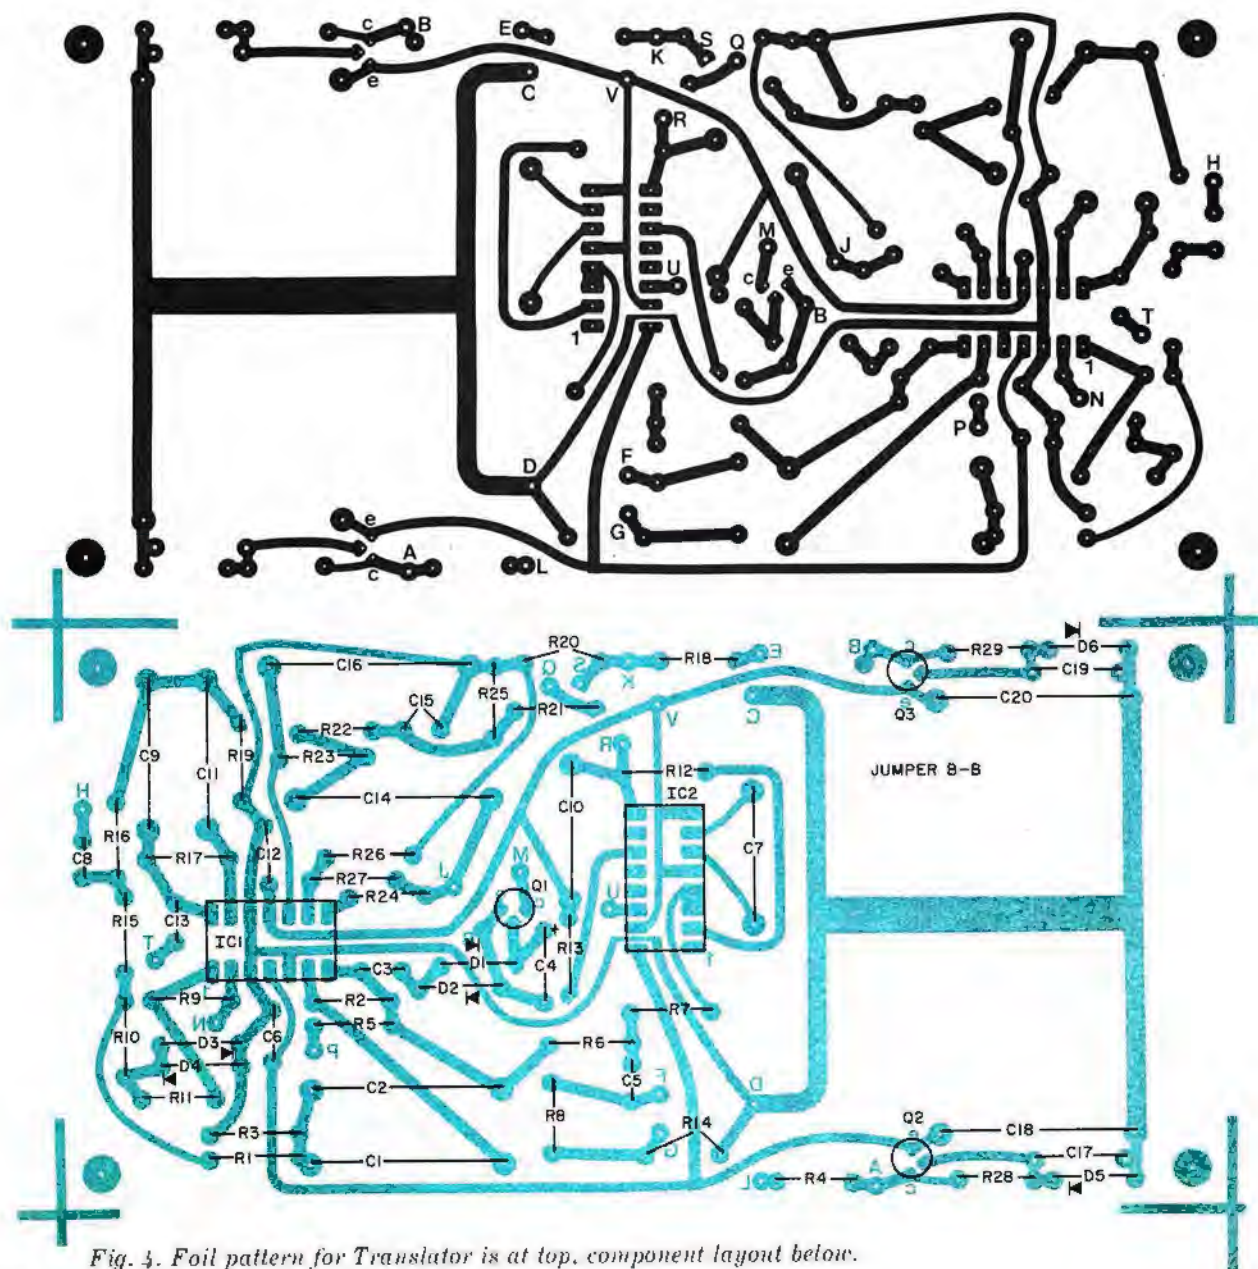

Fig. 4. Foil pattern for Translator is at top, component layout below.
**Construction.** The foil pattern for the pc board and component layout are shown in Fig. 4. Be sure to use precision capacitors for C1, C2, C7, C9, C10, C11, and C14. Also, C7 must be a polystyrene type to assure temperature and humidity stability. The insulated jumper must be installed between the two points marked B in Fig. 4. Observe the polarities of the electrolytic capacitors and semiconductors and the notch-and-dot codes of the IC's. Use a low-power soldering iron and fine solder.